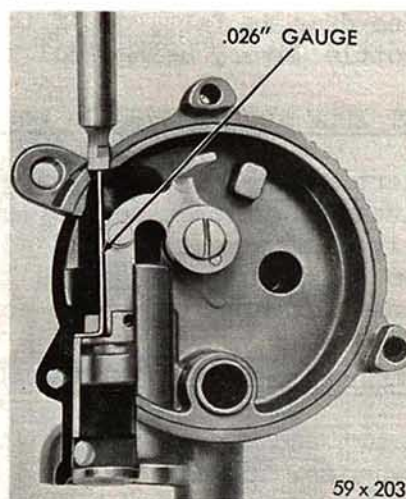

Fig. 9 - Choke Piston Index
4. Insert an .026 inch wire gauge\* into choke piston slot so that hook on the end goes into slot in cylinder, as shown in Figure 9.
it is 115 degrees to the horizontal, as shown in Figure 9. Proper pedal angle is obtained by adjusting the accelerator pedal to accelerator shaft rod length at the ball joint located on the accelerator pedal end. Check for any binding in the throttle linkage and correct if present. All TorqueFlite transmission equipped cars have a throttle linkage adjustment at the transmission throttle operating lever. The purpose of this adjustment is to allow for permissible variations between body and engine locations in manufacturing and should not be used for making the throttle linkage adjustment.